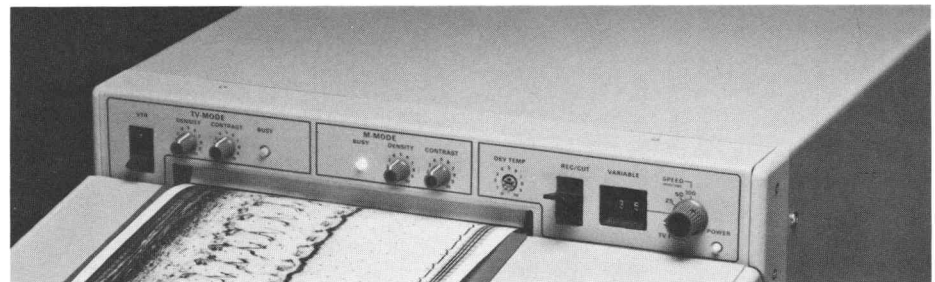

Figure 4.
**Operational flexibility.** The front-panel controls are designed for ease of use and flexibility (Fig. 4). There are separate DENSITY and CONTRAST controls for line-scan and TV modes of operation, allowing the independent optimization of the image characteristics of each mode.